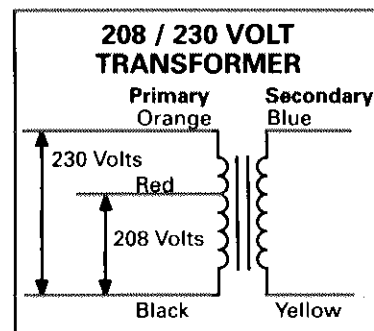

FIGURE 3
T1 supplies power to all control circuits in the unit (except the reversing valves and the heating section). Transformer T1 is rated at 70VA. 208/230 (P) voltage transformers use two primary voltage taps as shown in figure 3.